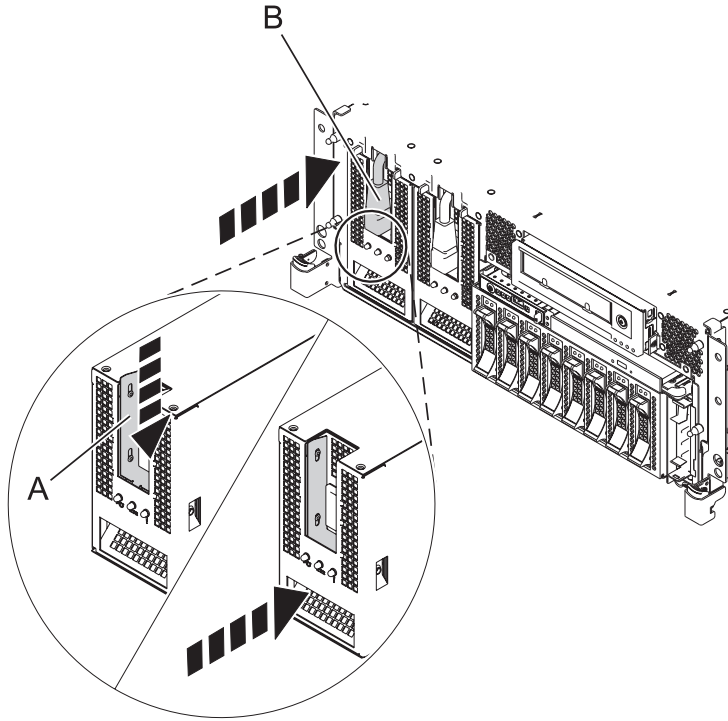

Figure 4. Replacing a power supply
4. Push the power supply into place until the locking latch (A) snaps into place as shown in Figure 4 on page 7.